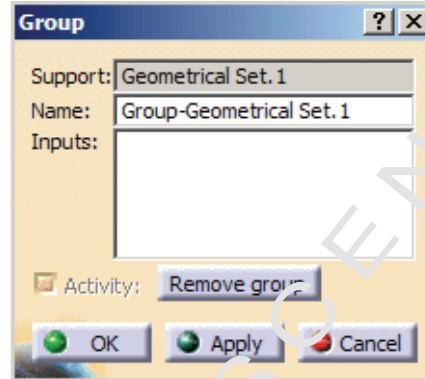

Figure 1-68
1. Right-click on Geometrical Set.1 and select **Geometrical Set.1 object > Create Group**. The Group dialog box opens as shown in Figure 1-68.